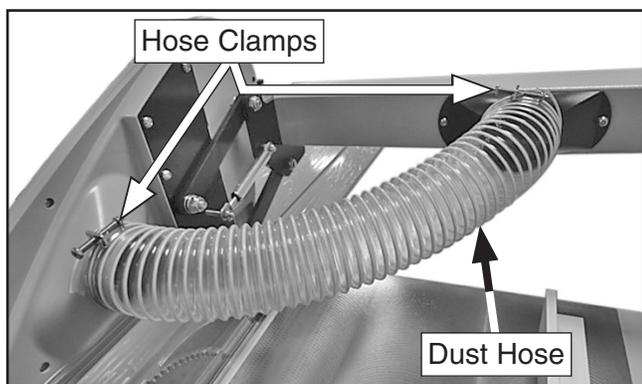

Figure 62. Dust hose attached to blade guard and upper support arm.
73. Attach dust hose to blade guard and upper support arm dust ports, and secure with hose clamps (see **Figure 62**).